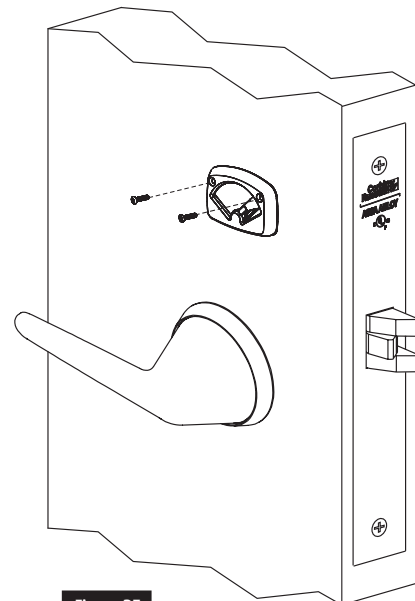

Figure 25
1. Install turn-piece loosely using two turn-piece mounting screws. (Figure 25)